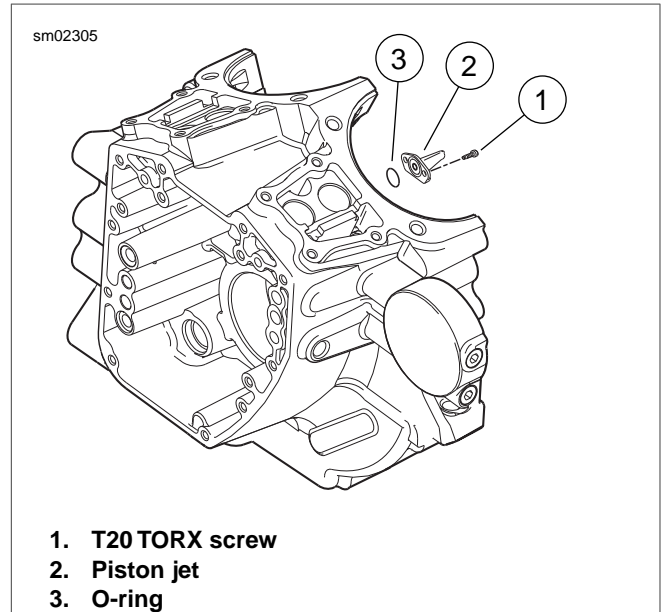

Figure 3-126. Piston Jets
1. See Figure 3-126. Remove two T20 TORX screws (1) to free piston jet (2) from crankcase.
2. Remove o-ring (3) from groove in mounting flange of jet. Discard o-ring.
1. See Figure 3-126. Apply a very thin film of clean H-D 20W50 engine oil to **new** o-ring (3) for piston jet. Install **new** o-ring in groove of jet mounting flange.
2. With jet pointed upward, start two T20 TORX screws (1) to secure piston jet (2) to crankcase. Tighten to **25-35 in-lbs (2.8-3.9 Nm)**.